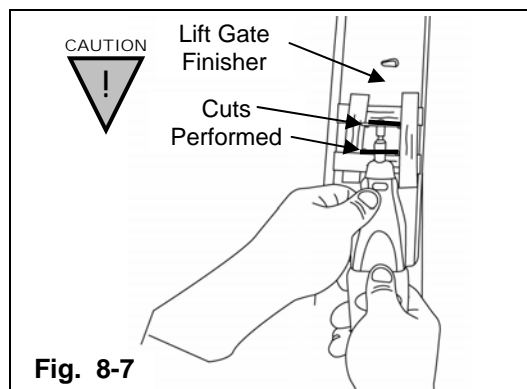

Fig. 8-7
- h) Create a cut at the left and right sections of the taped off portion, perpendicular to the rear gate finisher, connecting previously performed cuts. Be sure not to protrude into the taped off portion. **(Fig. 8-7)**